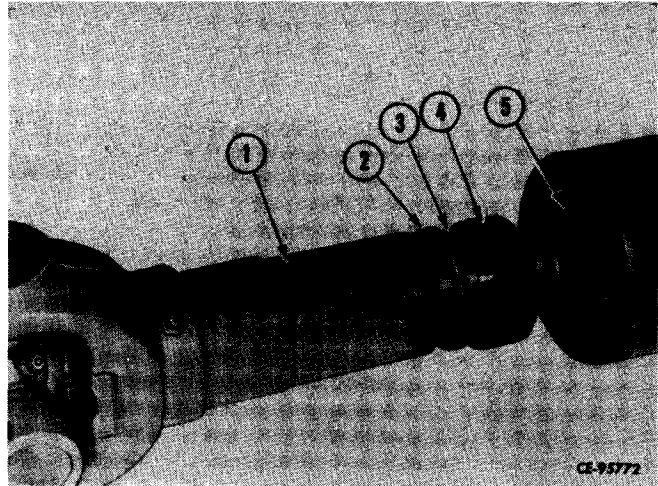

Figure 5-11
Loosen dust cap (4, Fig. 5-11) and separate the shaft halves (1 and 5). Remove steel washer (3) and cork washer (2).
Position dust cap (4, Fig. 5-11), steel washer (3) and cork washer (2) on splined shaft half (5), Insert splined shaft into yoke (1) aligning index marks made during disassembly. Tighten dust cap hand tight.